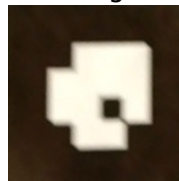

Figure 10
- o Once tag corner points are obtained, I sorted them in the order as top, left, bottom, right. Using these sorted corner points, I calculated the homography matrix for a 160 x 160 grid. Using this homography matrix, I got the AR tag in a 160x160 grid using inverse warping, such as Figure 10.